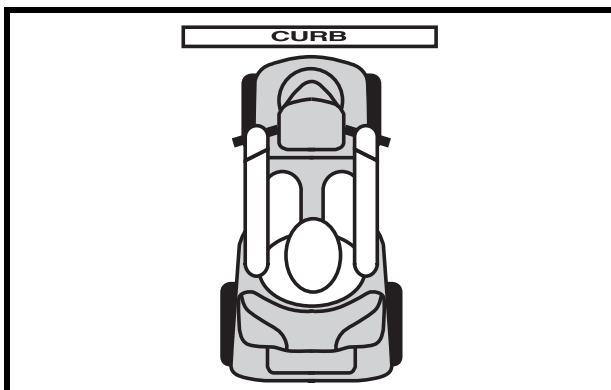

Figure 3. Correct Curb Approach
**WARNING!** Be sure your scooter is traveling perpendicular to any curb you may be required to ascend or descend. See figures 3 and 4.